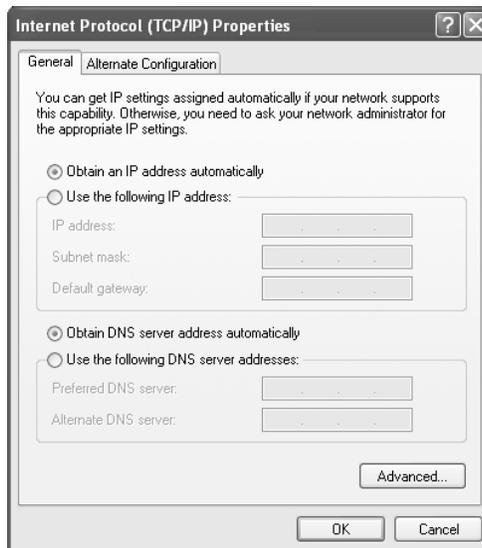

Figure 110: Internet Protocol Properties
5. Select Internet Protocol (TCP/IP) and select Properties. See Figure 110.